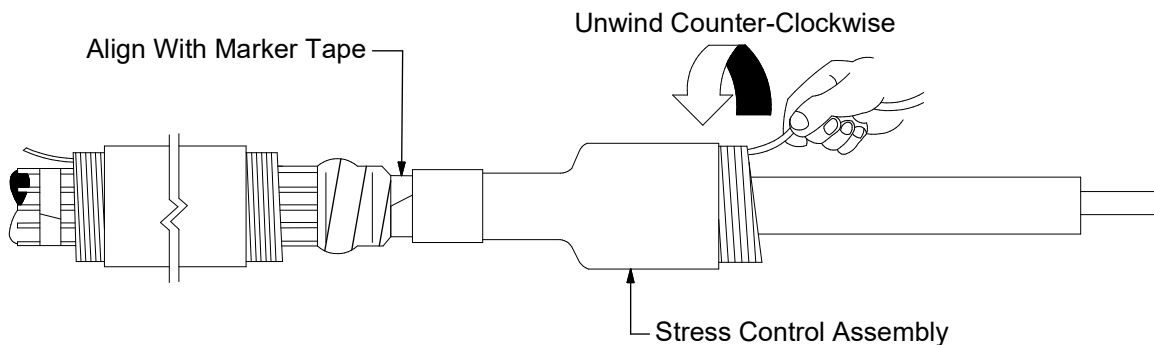

Figure 8
10. Select the Stress Control Assembly (medium length tubular assembly on white core) from the kit. Slide the Stress Control Assembly over the cable with the loose core end toward the cable end. Align the Stress Control Assembly Tube (not the core) with the marker tape, and remove the core by pulling the loose end while unwinding counter-clockwise. (Figure 8)